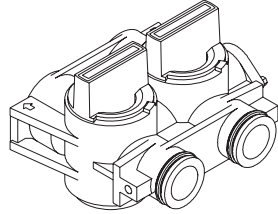

Figure 2
- Move the bypass valve handles to the bypass position. The valve handles should be perpendicular to the pipes (see figure 2).